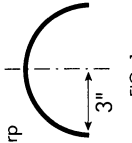

FIG. 1
2. Do not bend hose less than 3" radius. Keep hose length as short as possible and always cut hose 1" longer than measured. (See Fig. 1)